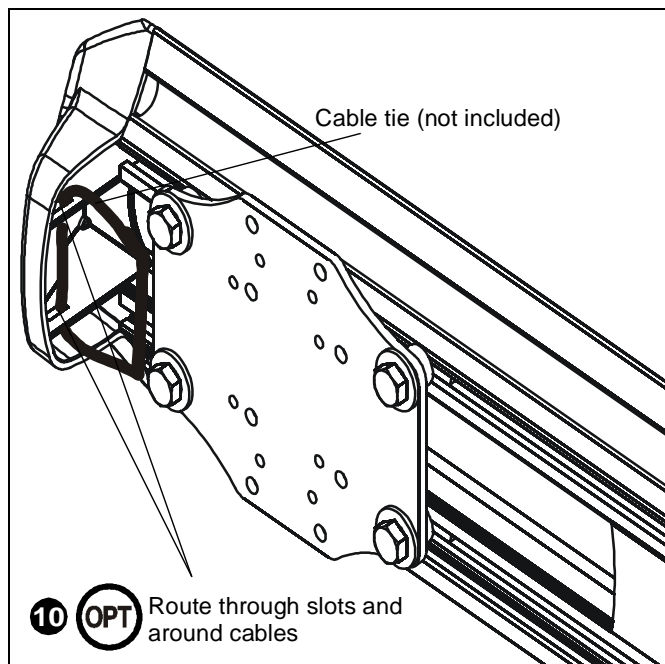

Figure 32
10. **(Optional)** Cables can be tied to inside of mount's front cover using cable ties (not included). Route cables near front cover and wrap cable tie through slots on front cover and around cables. (See Figure 32)